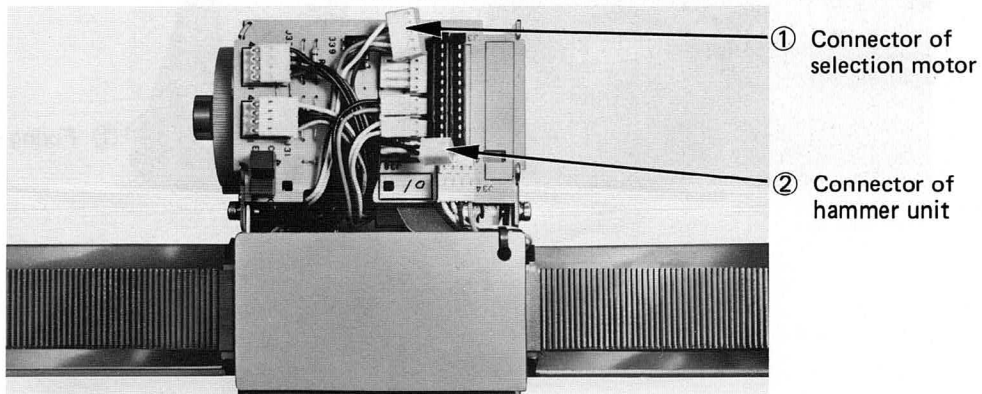

Fig. 5.24
- Step 2. Removing the cable holder from the carriage circuit board, disconnect connector ① at the selection motor and connector ② at the hammer unit. (Fig. 5.24)